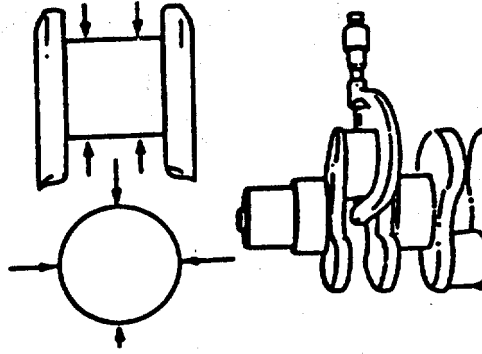

FIGURE 4-42. Measuring Mean Diameter of Rod Journal
(2) Measure and record the mean diameter of rod journal on the crankshaft (FIGURE 4-42).